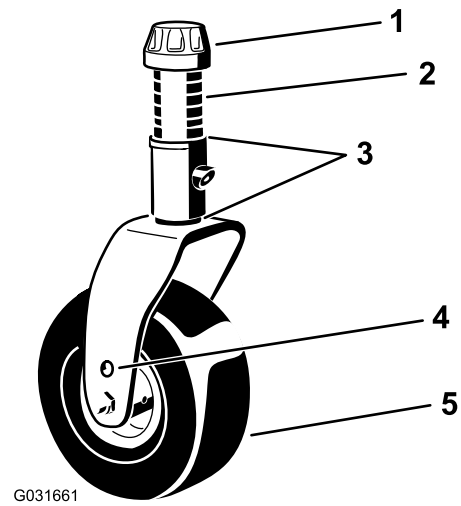

Figure 23
4. Using the supplied caster-cap wrench, loosen the tensioning cap and remove it from the caster-spindle shaft and slide the caster shaft out of the caster arm (Figure 23).